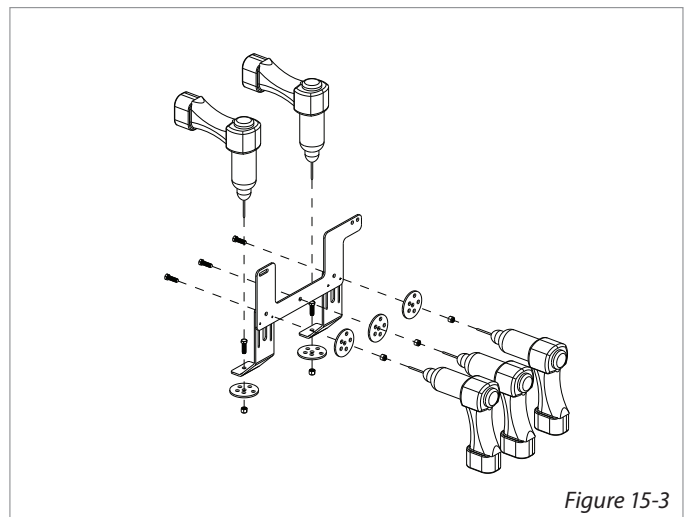

Figure 15-3
- Drill two 3/8" holes in floor of well using joiners as template. Fasten 3/8" hardware (x2). [Figure 15-3]
- **PLUS** Drill three 3/8" holes through back well wall using joiners as template to accept full-threaded 3/8" bolts. [Figure 15-3]